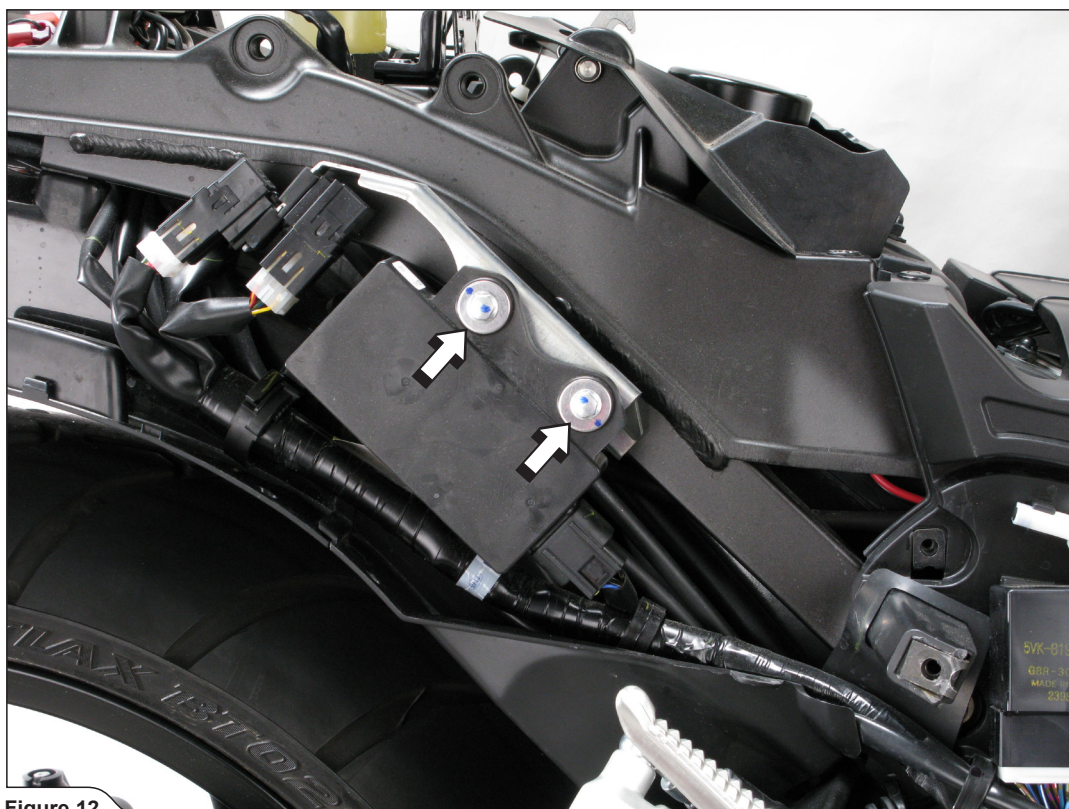

Figure 12
11. For OPEN SLIP-ON only: unscrew the marked bolts and remove the stock servo motor and anhook the cable of the exhaust valve (Figure 12, 13).